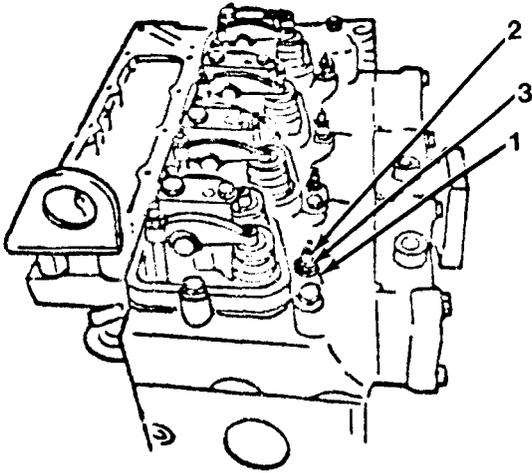

Figure 7-1
4. Hold injector body with adjustable wrench and, using a 24 mm box wrench, loosen hold-down nut (1) and remove four injector nozzles (2, Figure 7-1) from cylinder head.
5. Remove four copper injector washers (3).
1. Apply antiseize compound MIL-A-907 to threads between injector nozzle hold-down nut (1, Figure 7-1) and injector body.